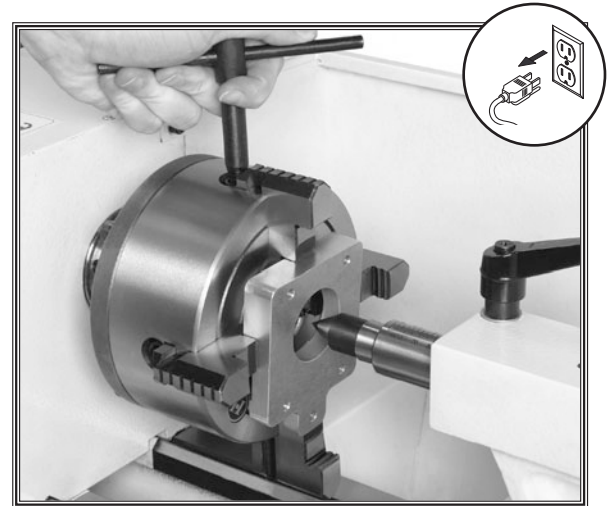

Figure 12. Rough centering procedure with a typical 4-jaw chuck, using the dead center and the tailstock.
4. Lock the tailstock, then turn the tailstock quill so the dead center makes contact or is close to the center point of your workpiece (see **Figure 12**).